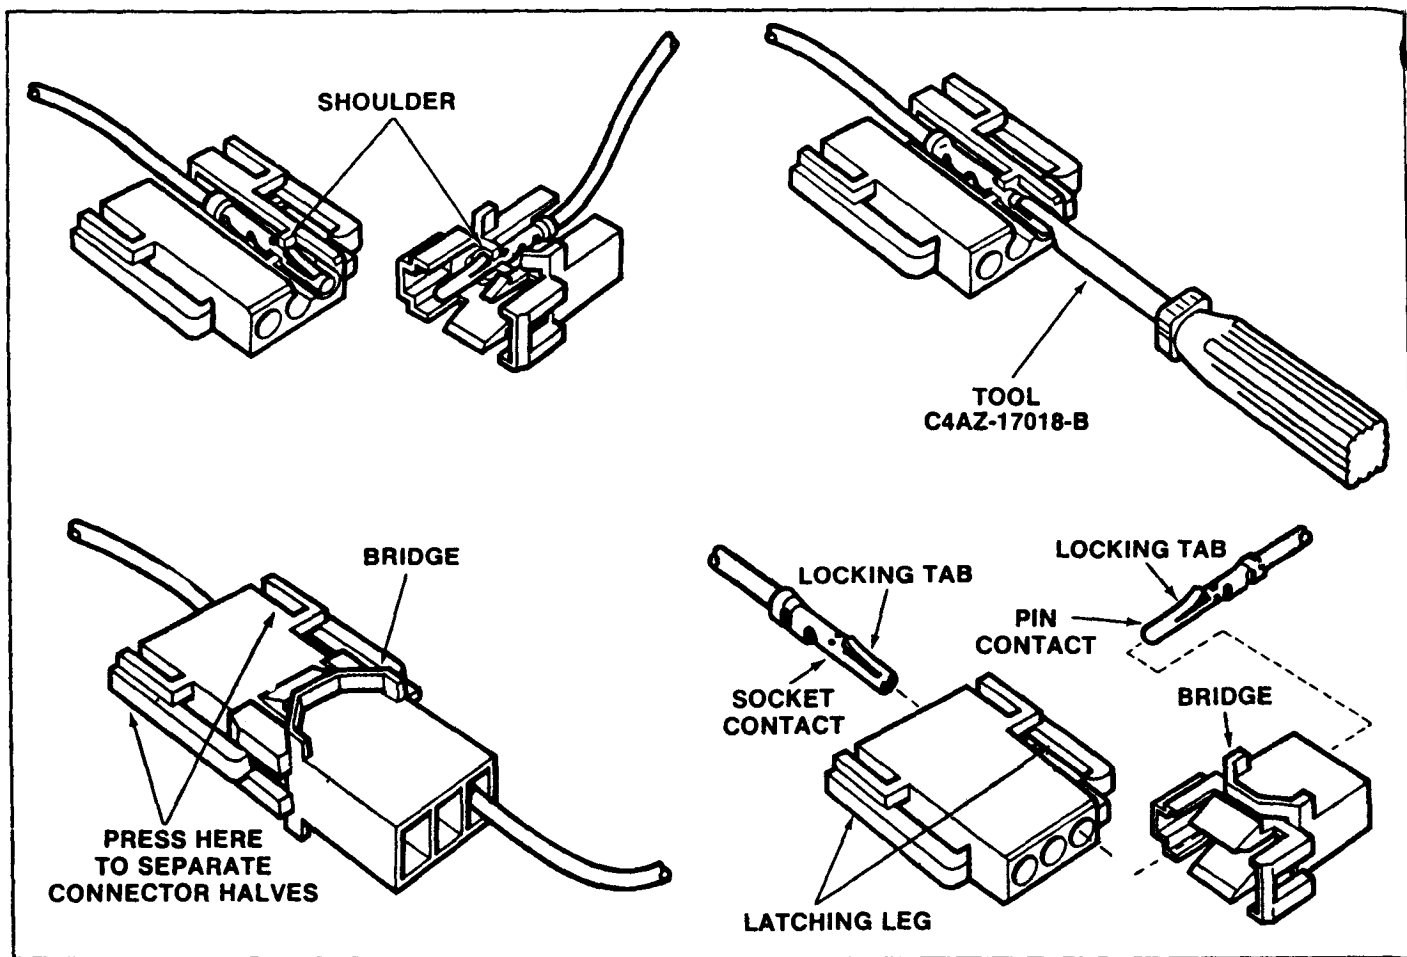

FIGURE 136. REPAIRING AMP-TYPE CONNECTORS
Amp-type connectors can be identified by a "bridge" or the pin half and "latching legs" on the socket half (Figure 136). The pins and sockets are held in the shell by locking tabs. To replace a pin or socket:
1. Squeeze the tabs, as shown in Figure 136, to separate the connector.